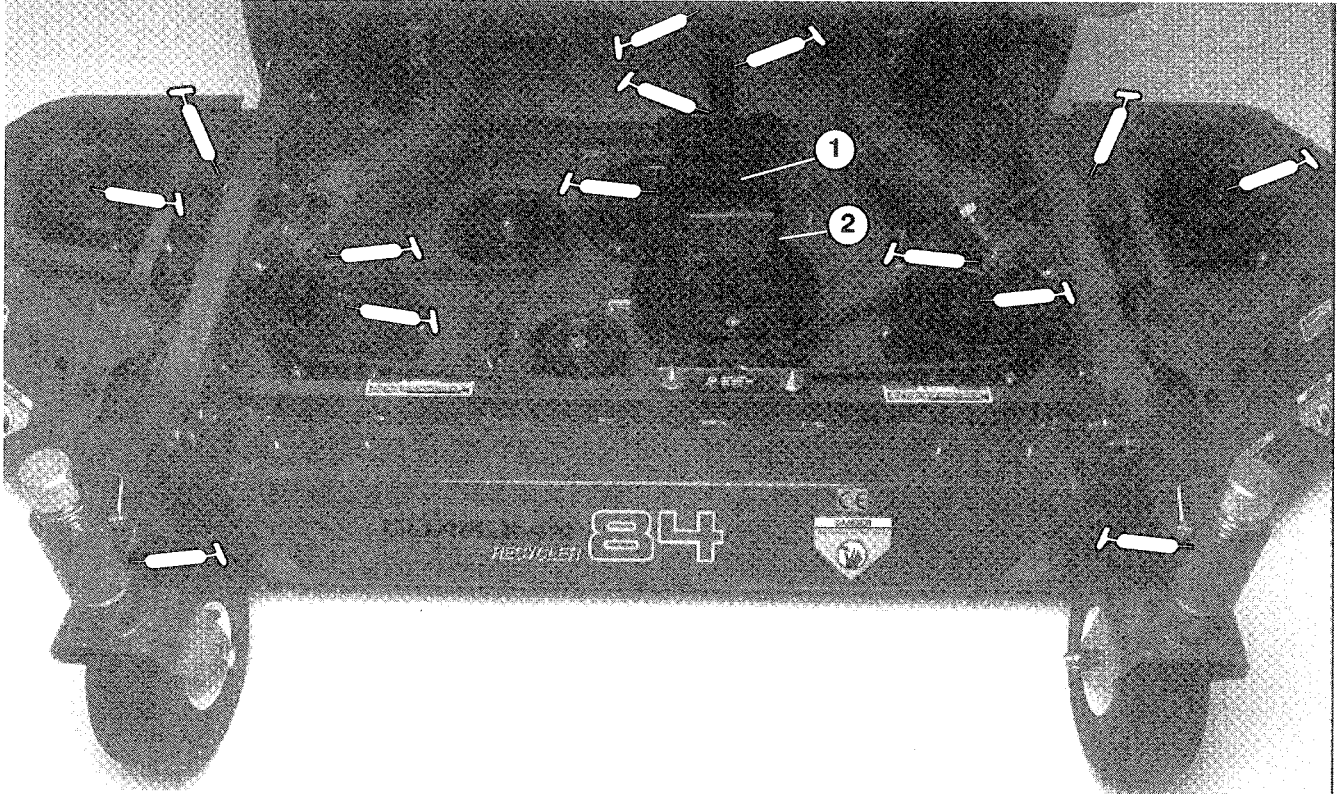

Figure 16
GREASE BEARINGS, BUSHINGS AND GEAR BOX (Fig. 16)
must be lubricated, and these lubrication points are: front castor shaft bushings (2), blade spindle bearings (5), idler arm pivots (2), drive shaft (3), Wing deck pivots (2) and right and left push arm ball joints (Fig. 16).